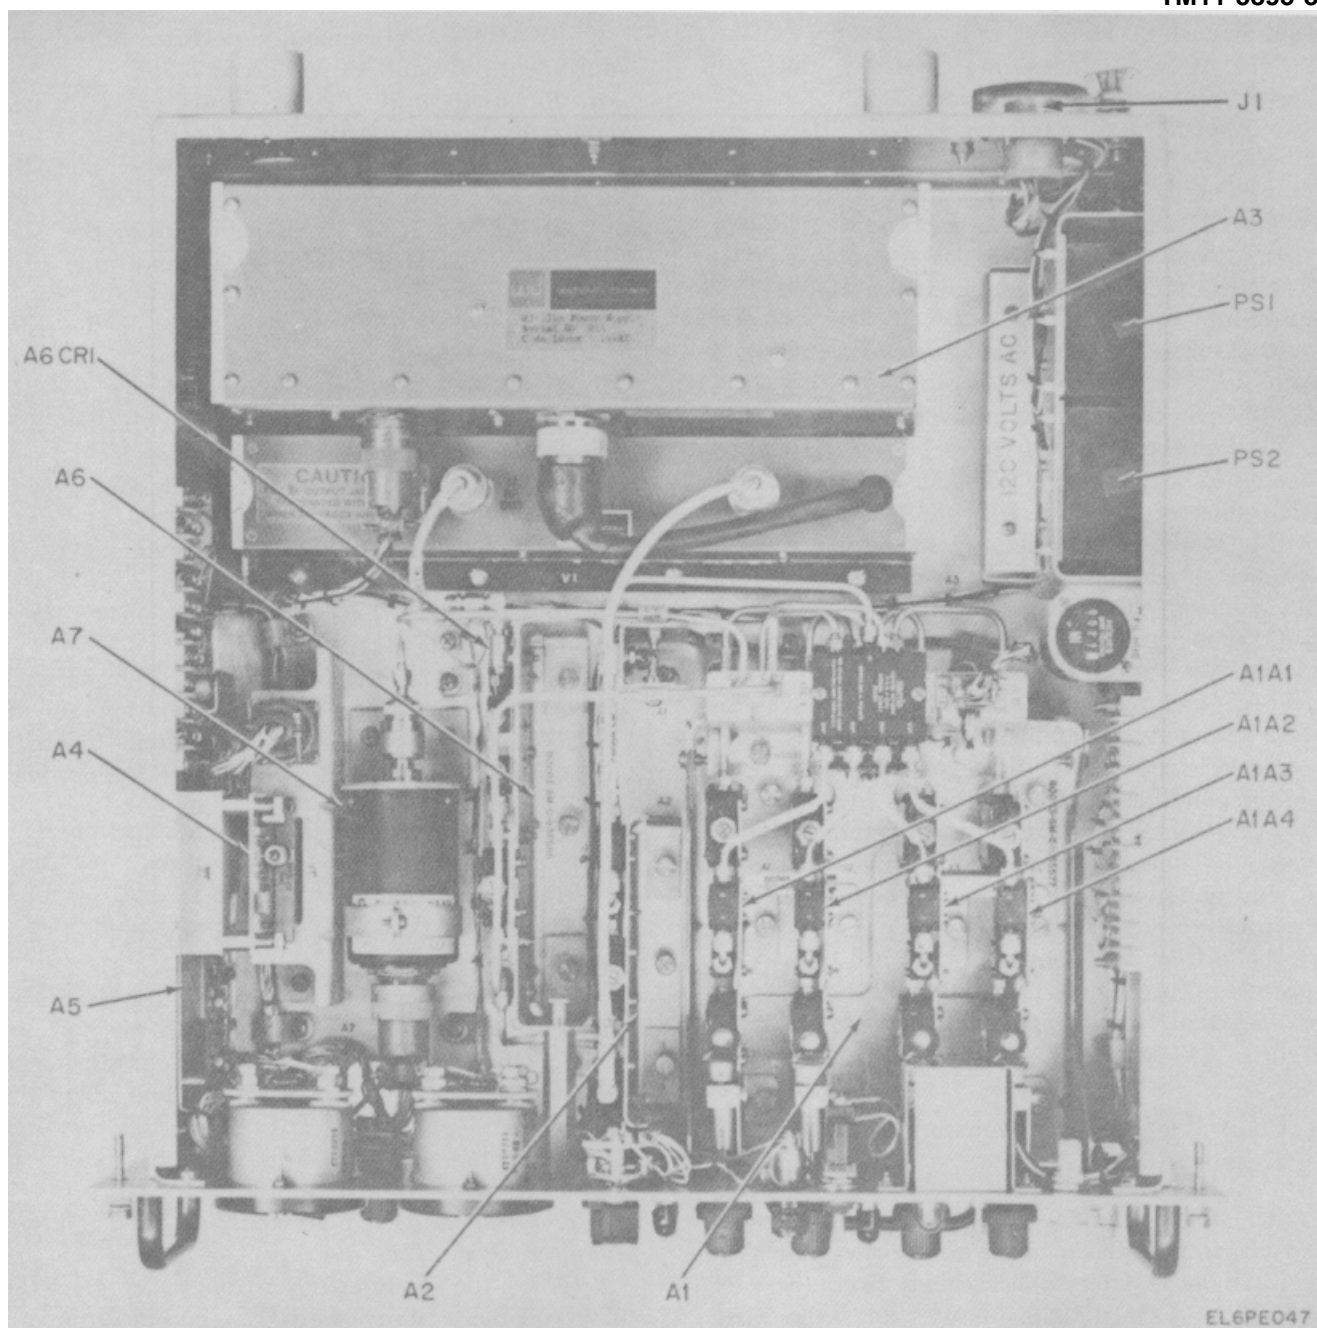

Figure 5-21. Amplifier/Mixer Module and Rear Panel Connectors Location.
a. Removal and Replacement of SHF Combiner Assembly A2 (fig. 5-21).
(1) On the amplifier/mixer front panel, place the POWER circuit breaker to the off position (down).
(2) Remove front panel cables from the SHF CHANNEL COMBINER inputs and the SHF OUTPUT connector.
(3) Loosen the four captive screws on the front panel.
(4) Open the amplifier/mixer drawer.
(5) Loosen the two screws which secure chassis cable connector P1 to module connector J1. Remove connector P1.
(6) On module A1, remove cable from connector J5, cable W3 from CP2, and cable W4 from CP1.
(7) Loosen the five captive screws (on the front panel) and two captive screws (inside chassis) which secure the A1 module to the amplifier/mixer drawer chassis.
(8) Remove SHF channel combiner module A1 from the amplifier/mixer drawer.
(9) Replace the module by performing steps (1) through (8) above in reverse order. Replace the semirigid cables and tighten the connectors with the torque wrench provided.
(10) After replacement, perform the gain adjustment procedure of paragraph 5-36.
b. Removal and Replacement of SHF Drive Assembly A2 (fig. 5-21)
(1) On the amplifier/mixer front panel, place the AC POWER circuit breaker to the off position (down).
(2) Remove front panel cables from the SHF CHANNEL COMBINER input and the SHF OUTPUT connector.
(5) Remove cable W1 from J1 on the SHF drive assembly A2, remove cable W5 from AT3, and remove cable connector P4 from CR1.
(6) On the front panel, loosen the set screw on the output level adjustment knob; remove knob and knob lock from the front panel.
(7) Remove the hex nut securing the output level adjustment control to the front panel.
(8) Loosen the three captive screws which secure the A2 module to the amplifier/mixer drawer chassis.
(9) Remove the SHF drive assembly module A2 from the amplifier/mixer drawer.
(10) Replace the module by performing steps (1) through (9) above in reverse order. Replace the coaxial and semirigid cables and tighten the connectors with the torque wrench provided.
(11) After replacement, perform the gain adjustment procedure of paragraph 5-36c.
c. Removal and Replacement of FET/TWT Amplifier A3 (fig. 5-21).
(2) Remove front panel cables from the SHF CHANNEL COMBINER inputs and the SHF OUTPUT connectors.
(5) On module A3, remove cable W5 (with attenuator) from A2J1, cable W6 from A3J2 and power cable from A3J1.
(6) Loosen the eight captive screws which secure the A3 module to the amplifier/mixer drawer chassis.
(7) Remove module A3 from the amplifier/mixer drawer.
(8) Replace the module by performing steps (1) through (7) above in reverse order. Replace the coaxial cables and the power cable.
(9) After replacement, perform the gain adjustment procedure of paragraph 5-36d.
d. Removal and Replacement of Transient Suppressor Module A4 (fig. 5-21).
(2) Remove front panel cables from the SHF CHANNEL COMBINER INPUT and the SHF OUTPUT jacks.